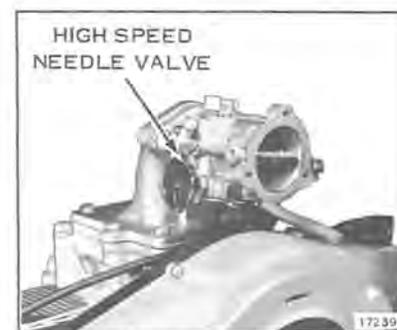
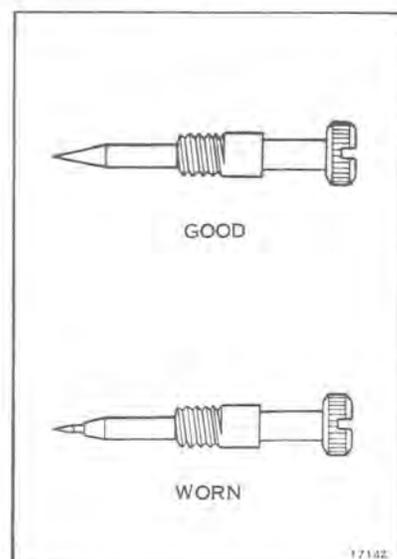

Figure 6-3
Figure 6-5
- g. Remove and inspect the points of the high speed and idle mixture screws. See Figures 6-3 and 6-4. Through misuse, either mixture screw point may be bent (extruded) from being forced into the casting seat or possibly broken off in the casting (see Figure 6-5). If either mixture screw is damaged, be sure to inspect the casting. If the adjustment seats are damaged, a new body casting is required. Check for clogged inlet and return line screen.